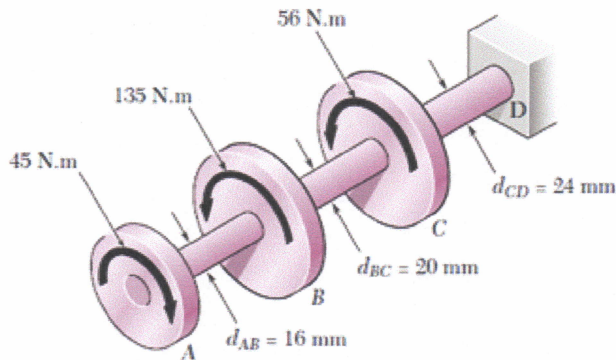

Figure Q4(c)
- (c) Refer to **Figure Q4 (c)** knowing that each portion of the shaft AD consists of a solid circular rod, determine the maximum stress in shaft BC. (8 marks)
- Q5** (a) Give **Three (3)** example of cylindrical pressure vessel. (3 marks)